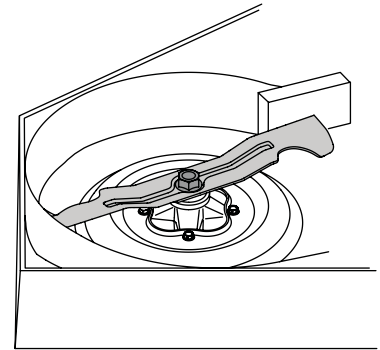

Figure 4-23
2. Use a 1-1/8" wrench to hold the hex nut on top of the spindle assembly when loosening the bolt securing the blade. A block of wood may be placed between the deck housing and the cutting edge of the blade to help in breaking loose the hex nut securing the blade. See Figure 4-23.